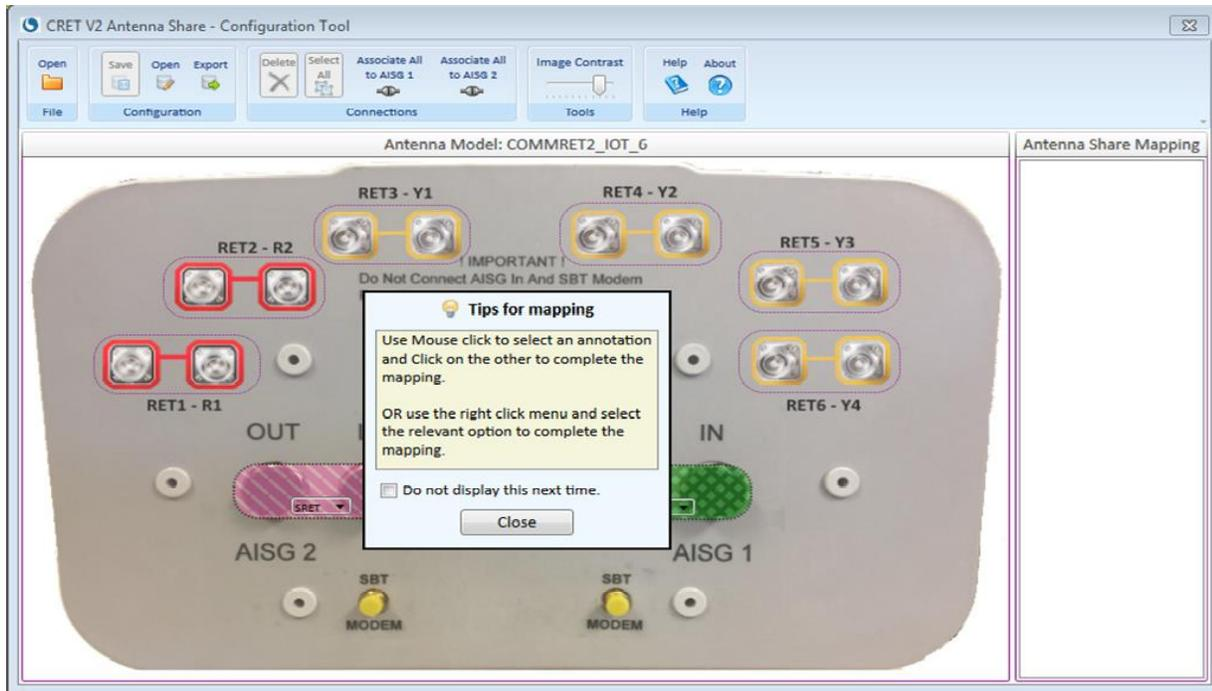

Figure 15-12. Loaded antenna annotation for antenna sharing
- 4. The annotation data includes the endcap image with shapes indicating the frequency bands and the AISG input ports are shown as in the Figure 15-12. Tips popup window displays the instructions to do the antenna sharing. Click on the close to dismiss the popup window.